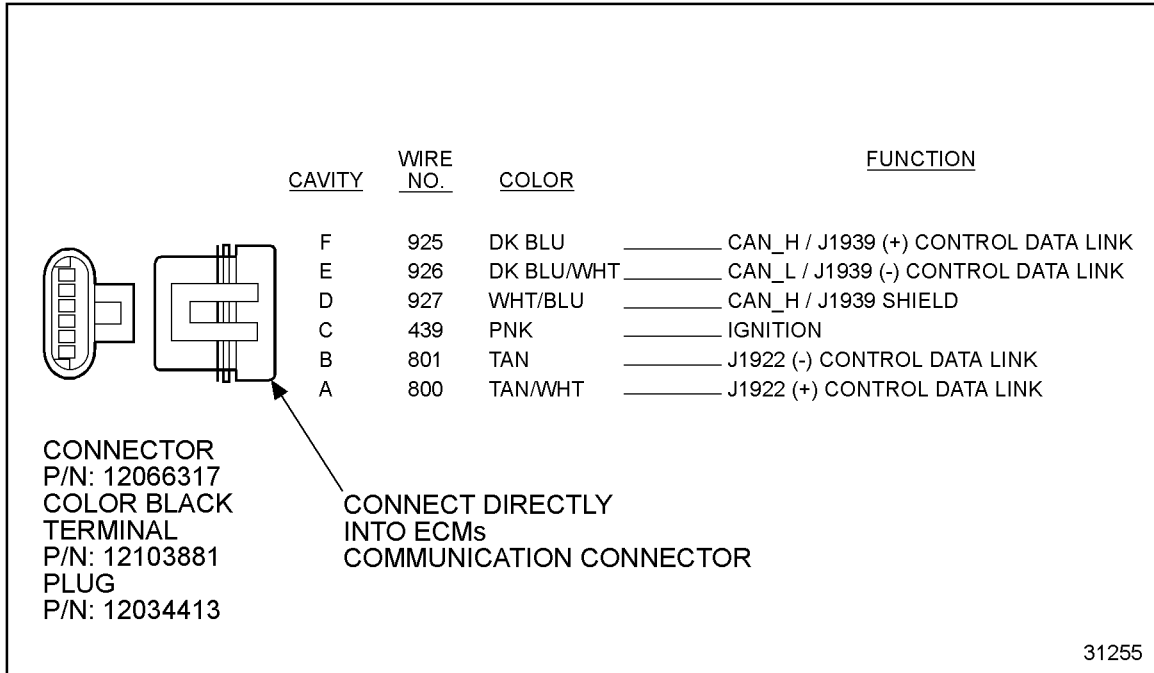

Figure 57-2 Communication Harness
2. Determine if any OEM equipment utilizes the J 1922 data link. See Figure 57-2.